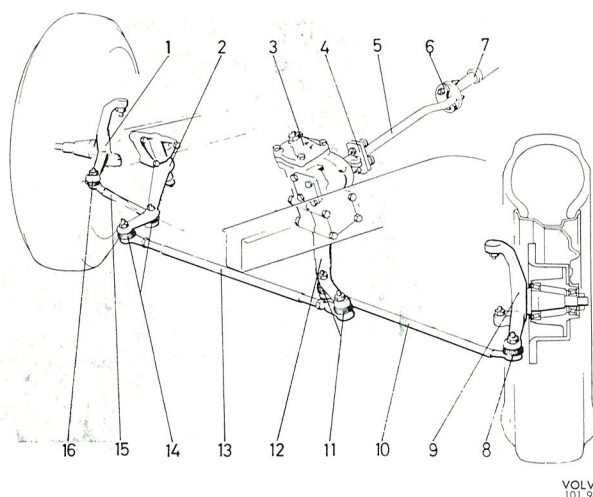

Fig. 6-31. Steering gear
The design of the steering gear is shown in Fig. 6-31. The movement of the steering wheel is transmitted to the wheels via the divided column (7 and 5), the steering box (3) the pitman arm (12), the tie rod (13), the steering rods (10) and (15) as well the steering knuckles (1) and (9). The steering gear is of the "cam and roller" type. The steering cam is carried in two ball bearings and the pitman arm shaft in three bushes.